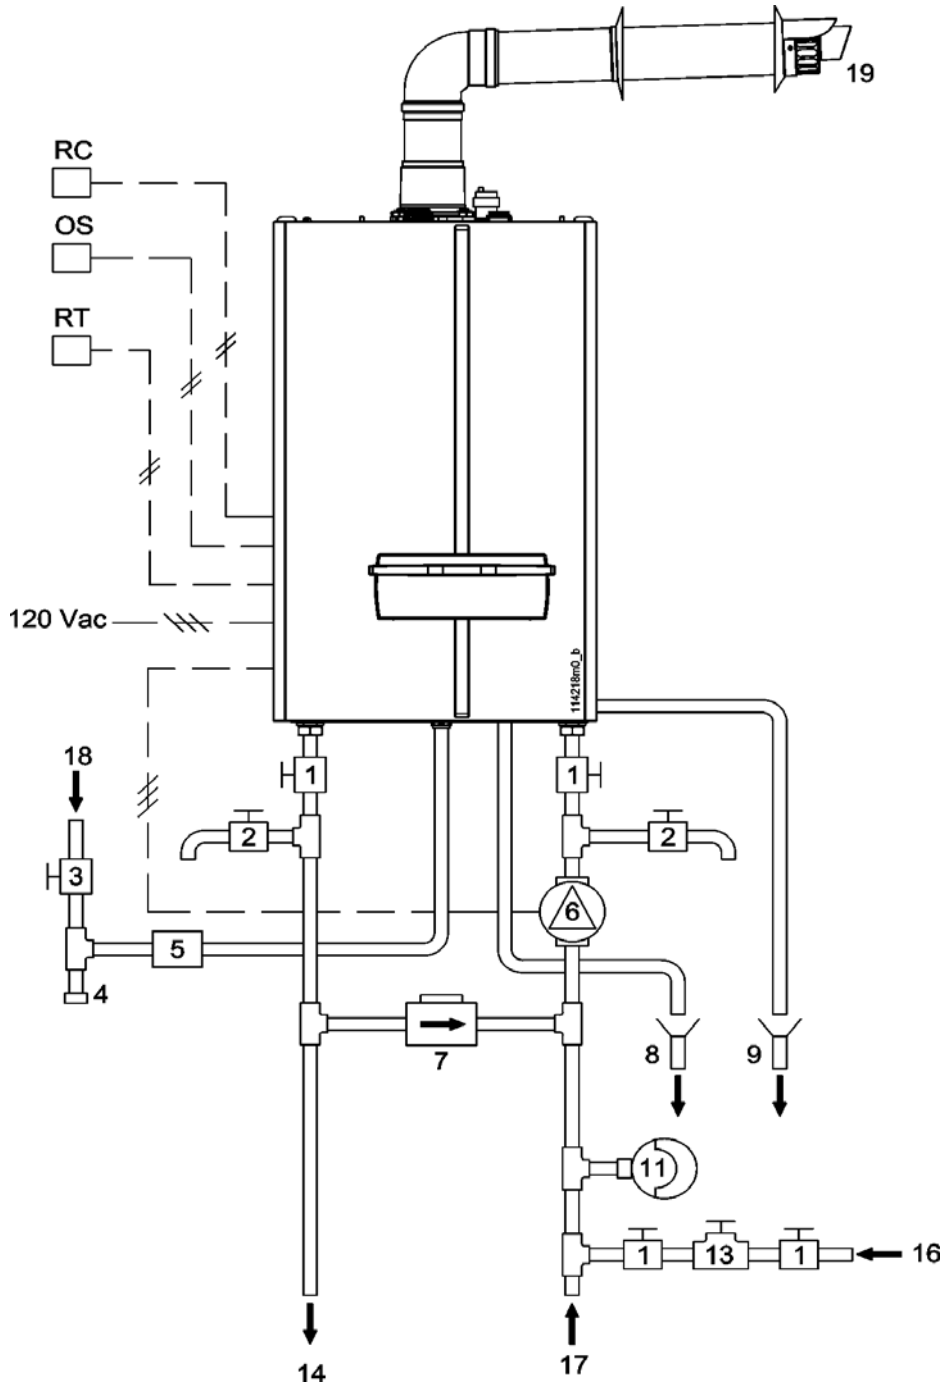
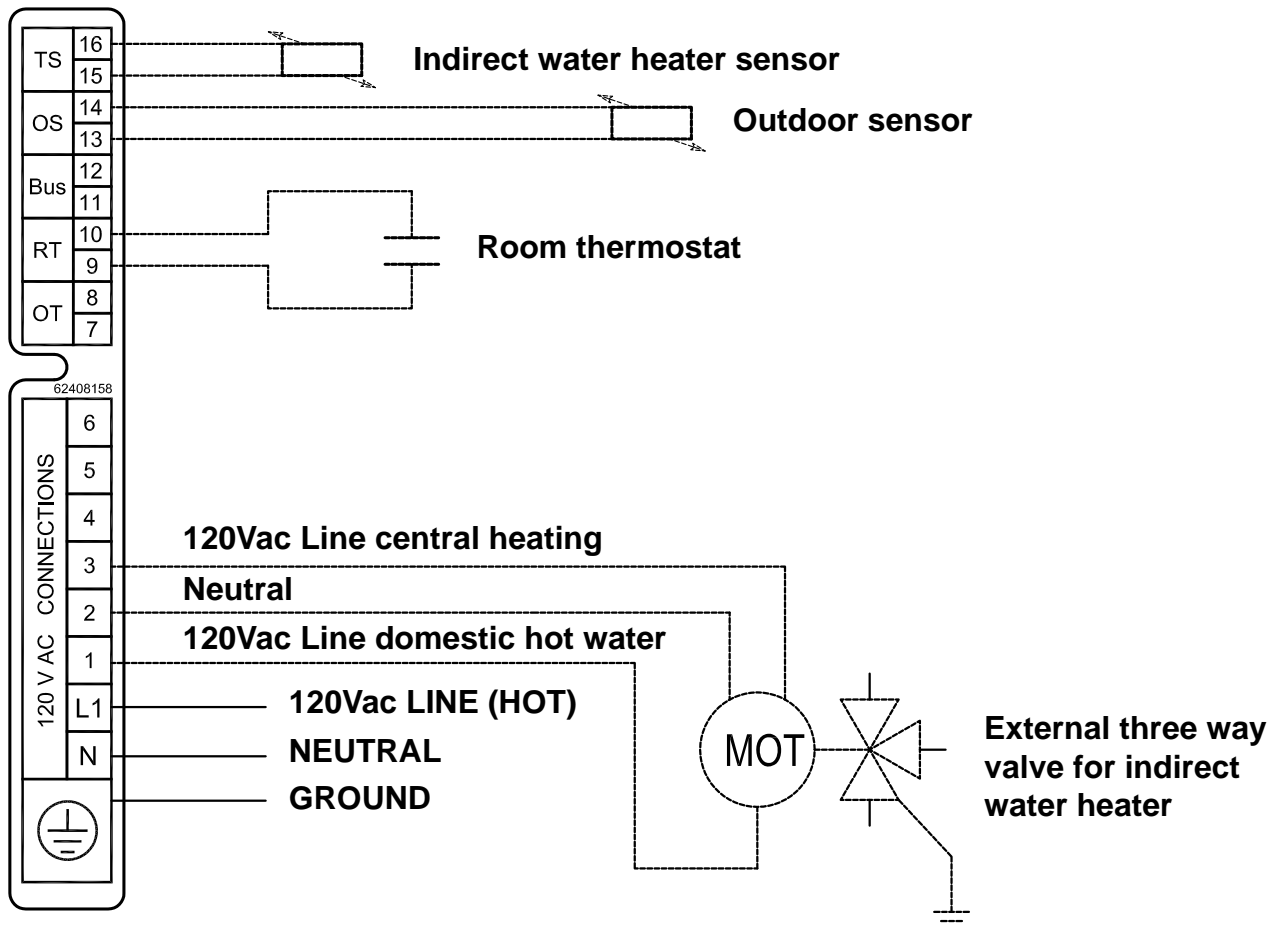

Figure 16 - Typical piping and wiring of a boiler models 160B and 160OB
Figure 18 - Electrical connections
Figure 16 shows the suggested piping and wiring connections for boiler models 160B and 160OB.
4. connect the cable leads to the "RT" terminals as shown in figure 18.
3. connect the outdoor temperature sensor cable leads to terminals OS as shown in figure 18;
Install the circulator pump as per figure 16 item "6". Wire the pump to the boiler following the steps below while refering to figure 18:
9. use a # 18 AWG two wire cable to connect the indirect storage tank temperature sensor to terminals "TS", item "M", as per figure 18;
11. use a #18 AWG four wire cable to connect the three way valve to terminals "1", "2", "3" and Ground as per figure 18 where: